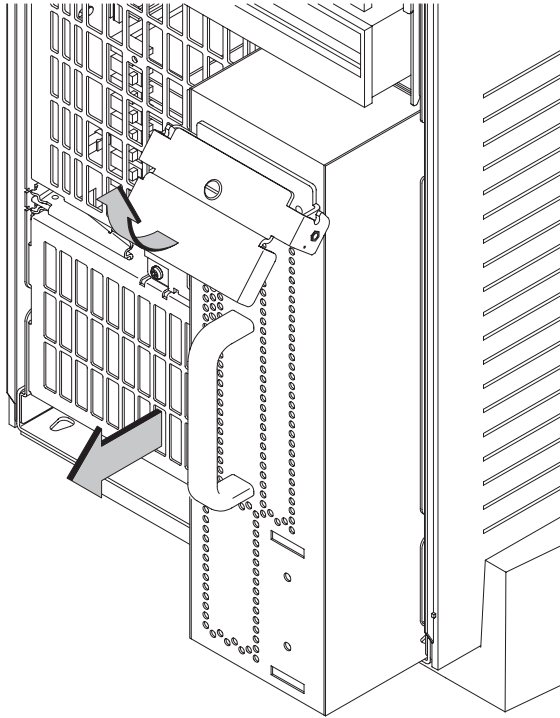

Figure 5–53. Removing the Power Supply
3. Unscrew the screw in the center of the power supply extractor and lift the extractor up. The power supply assembly slides partway out, disconnecting from the internal connectors. See Figure 5–53.